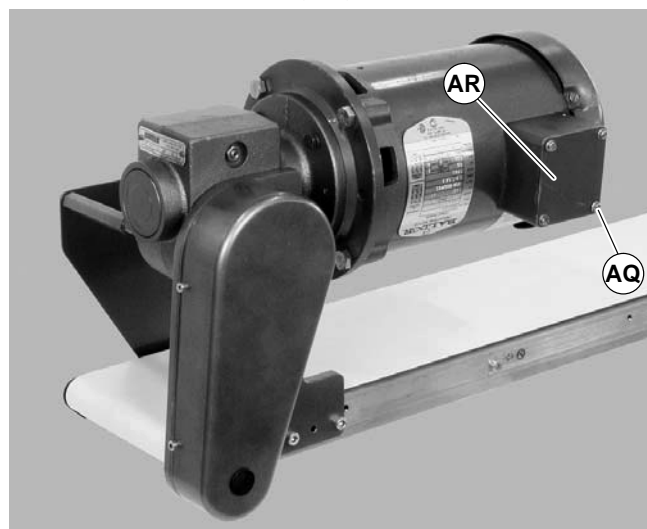

Figure 27
- a. Remove terminal box screws (AQ of Figure 27) and remove cover (AR).